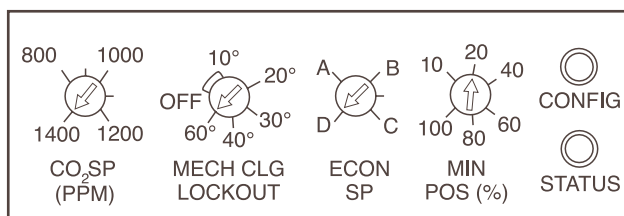

Fig. 37 — EconoMi\$er Control Adjustment Potentiometers (Factory Settings)
2. Locate the CO₂ SP (PPM) potentiometer and adjust to the desired set point. See Fig. 37.
Mechanical Cooling Lockout — Determine the outdoor-air temperature at which you want the mechanical cooling (compressors) to be disabled. Locate the mechanical cooling lockout (MECH CLG LOCKOUT) potentiometer. To disable this feature, turn the potentiometer counterclockwise (CCW) to the OFF position. Otherwise, set the value between 10 and 60 F. Mechanical cooling will not operate when the outdoor air temperature is below this value. See Fig. 37.
Dry Bulb Changeover Set Up — Determine the dry bulb changeover set point from Table 3. The settings are A, B, C and D. Locate the ECON SP potentiometer and set the dry bulb changeover set point. See Fig. 37. When the OAT is above this set point, the damper is limited to minimum position setting.
2. Locate the minimum position (MIN POS) potentiometer. Turn the potentiometer full CCW to fully close the outdoor air dampers. Turn the potentiometer gradually clockwise (CW) to the desired position. See Fig. 37.